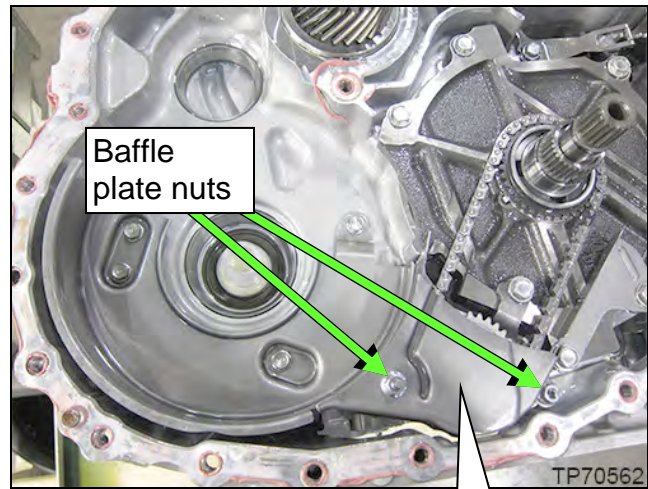

Figure 11B
8. Remove the two (2) nuts from baffle plate A, and then remove baffle plate A (see Figure 11B).